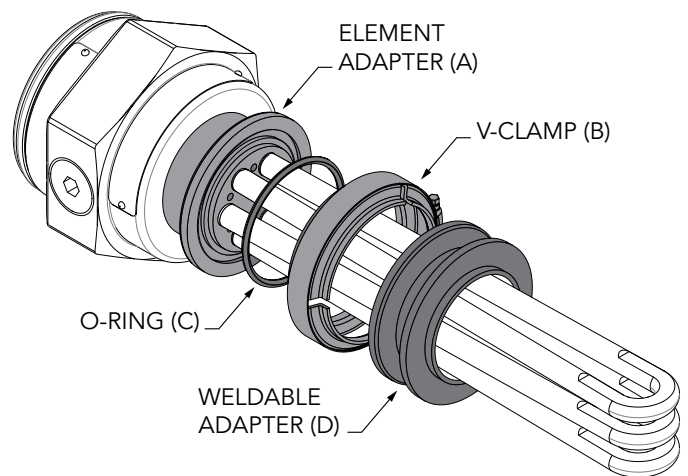

Figure 2. Industrial immersion V-clamp assembly components.
1. Center weldable adapter (D) on port. See Fig 2. Weld adapter in place.